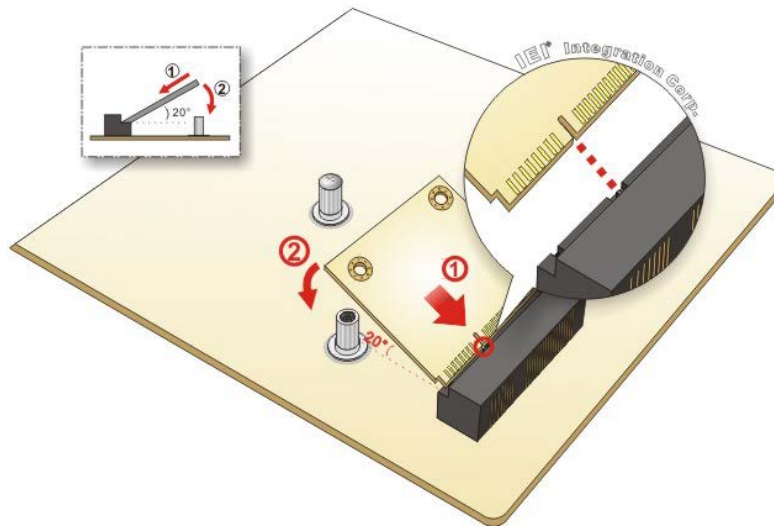

Figure 4-12: Inserting the Half-size PCIe Mini Card into the Slot at an Angle
- Step 3:** Insert into the socket at an angle. Line up the notch on the card with the notch on the slot. Slide the PCIe Mini card into the slot at an angle of about 20° (Figure 4-12).